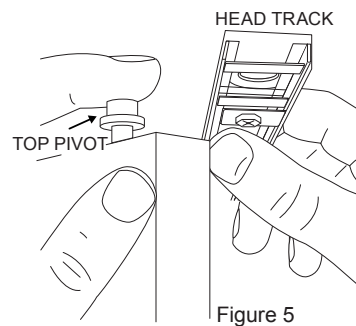

Figure 5
**5** To install a hinged pair of doors fold doors together and engage top pivot in the top socket and the top guide in the track. Lower the doors and locate the bottom pivot in the bottom jamb bracket. (Figure 5)